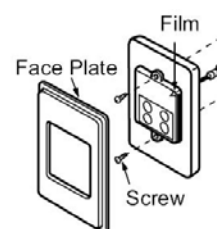

Fig. 4
6. Fix the controller to the wall and fasten with the Phillips head screws supplied as shown in (fig.4).